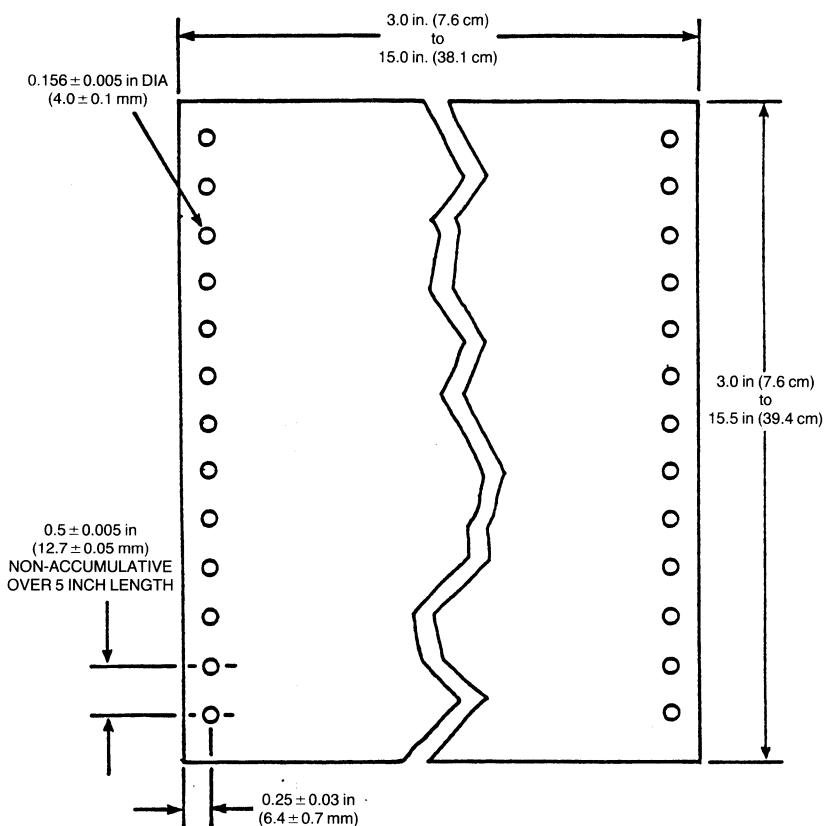

Figure D-1 Fanfold Forms Design.
1. Size: See Figure D-1 for size specifications.